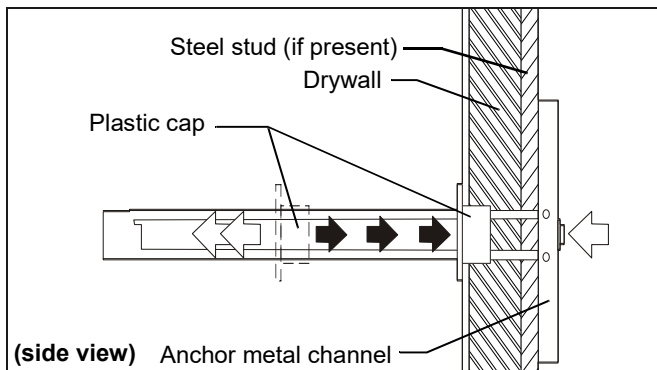

Figure 9
2. Holding plastic straps on snaptoggle (H), pull anchor away from wall until channel rests flush behind wall making sure anchor channel is positioned vertically on drywall, or steel stud (if present). (See Figure 9)
3. Slide plastic cap on snaptoggle towards wall until flange of cap is flush with wall. (See Figure 9)